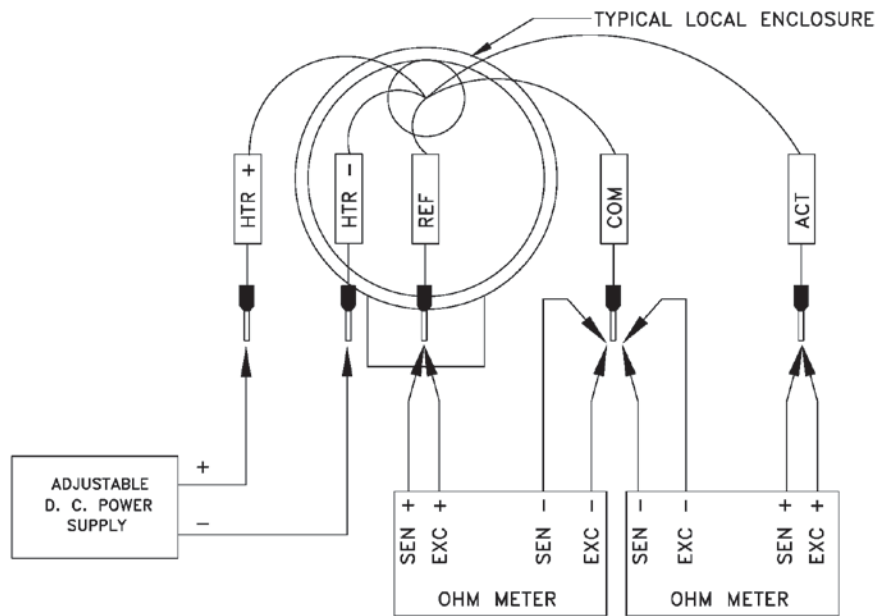

Figure D-1. Sensing Element Calibration Connections
4. Connect the DMMs and the power supply to the sensing element as shown in Figure D-1.
7. Record the resistance values of the sensing elements and calculate the resistance differential (DR). If DR does not exceed the maximum DR of 280 ohms then proceed with the calibration. If the DR is above 280 ohms use the next lower heater wattage setting and let the instrument stabilize. Recheck the DR.